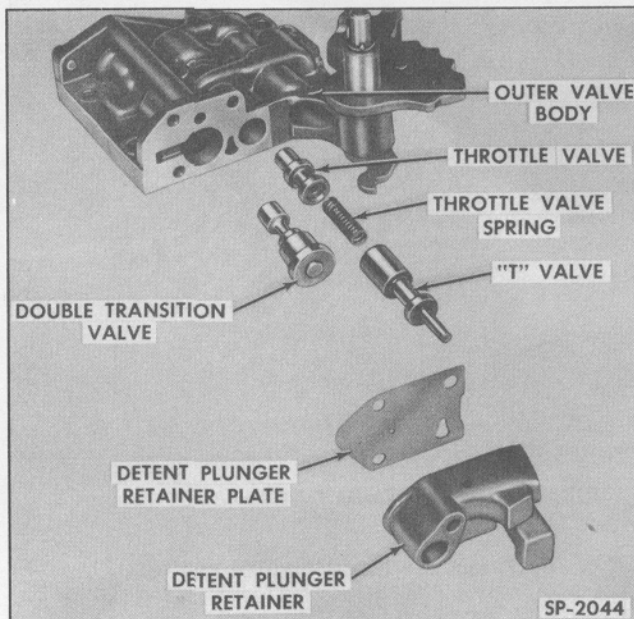

Fig. 41—"T" Valve, Throttle Valve and Double Transition Valve
2. Remove the "T" valve, throttle valve spring, throttle valve and double transition valve (Fig. 41).